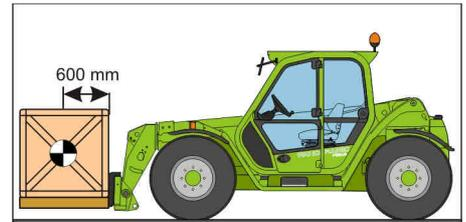
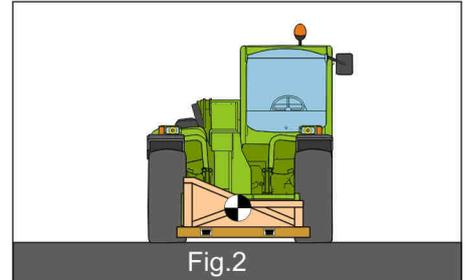

Fig.1
Fig.2
- extend the telescopic boom, so as to draw near the fork couplings (Fig.1)
- raise the telescopic boom, while at the same time rotating the carriage upwards, until the forks are correctly coupled. During this operation, the carriage automatically lifts safety pin "B" of the forks (Fig. 2 and 3).
- lift pin 'B' from its safe position (Fig. 1) to a released position (Fig. 2), and check that it is kept in a lifted position
Before lifting a load, its weight and centre of gravity need to be found out. Remember that the centre of gravity of a load on the forks is calculated at 600mm from the heel of the fork. (Fig.1)
If irregular loads are manoeuvred, the centre of gravity needs to be calculated transversely before each manoeuvre (Fig.2).
- roof rotating flashing beacon (figure 1)
- water level in the radiator (figure 2)